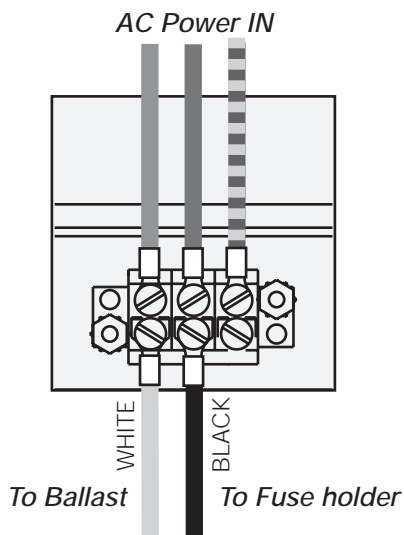

Figure 1. Power Connection for Backlighting Option
6. Attach white wire from ballast and black wire from fuse holder as shown in Figure 1. Insert the lock washers provided between the wire pairs.